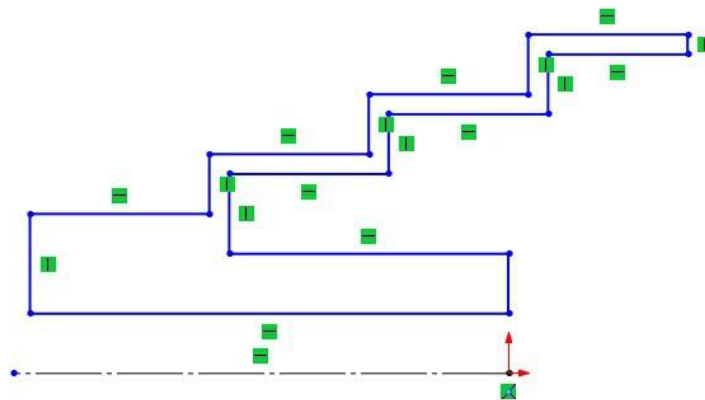

Figure 2-21 Final sketch for Tutorial 2
- Draw the sketch using the **Line** and **Centerline** tools, refer to Figure 2-21.
28. Move the line cursor vertically downward to the start point of the first line. Click when an orange or yellow circle is displayed; the final sketch for Tutorial 2 is created, as shown in Figure 2-21. In this figure, the grid display is turned off for clarity.
*The display of relations shown in Figure 2-21, can be turned on or off by choosing the **View Sketch Relations** button from the **View (Heads-Up) > Hide/Show items** flyout.*